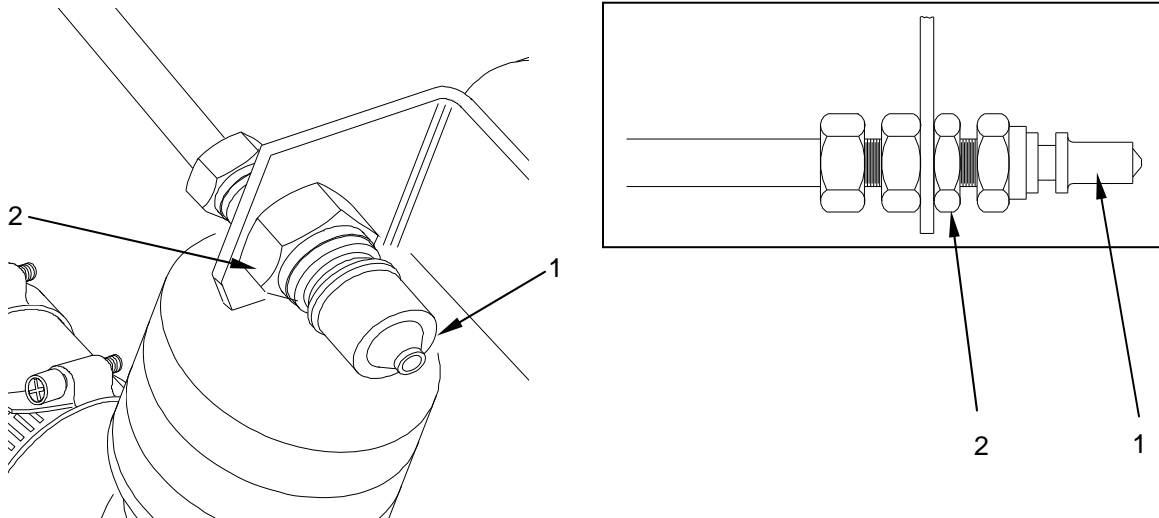

Figure 1. Replace the Fuel Interface Fitting.
1. To replace the fuel interface fitting (Figure 1, Item 1), loosen and remove the fitting from the union (Figure 1, Item 2) using a suitable wrench, while holding the union in place with a second wrench.
2. Remove joint sealing compound residue from the union (Figure 1, Item 2).
3. Apply new joint sealing compound to the union (Figure 1, Item 2), and thread the serviceable fuel interface fitting (Figure 1, Item 1) onto the union, while holding the union in place with a wrench.